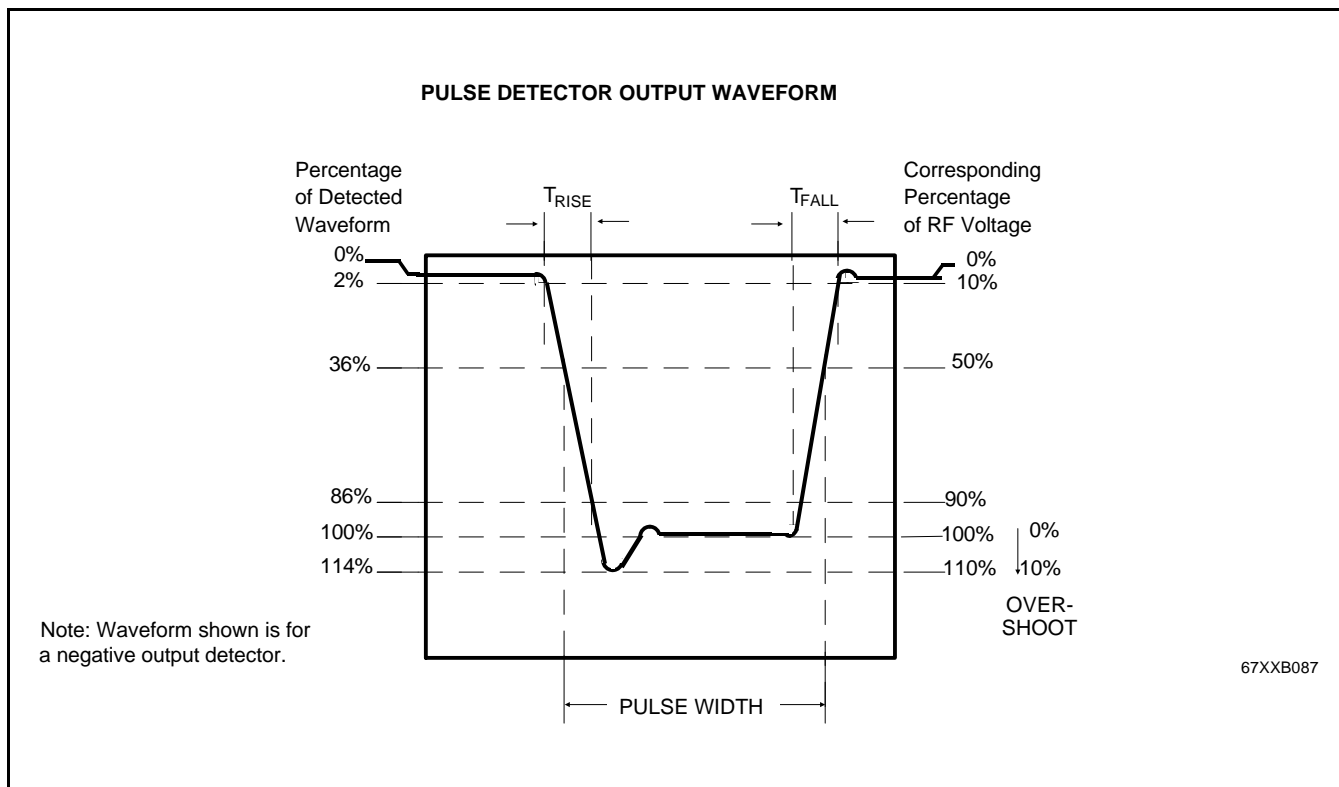

Figure 2-20. Measurement Parameters for Pulse Modulation Waveform
2. On the Oscilloscope, turn off CH.4. Observe the output of the Pulse Detector on the Oscilloscope. Refer to Figure 2-20 to interpret the detector waveform. Adjust the Oscilloscope controls to measure and record the following on the Test Record: